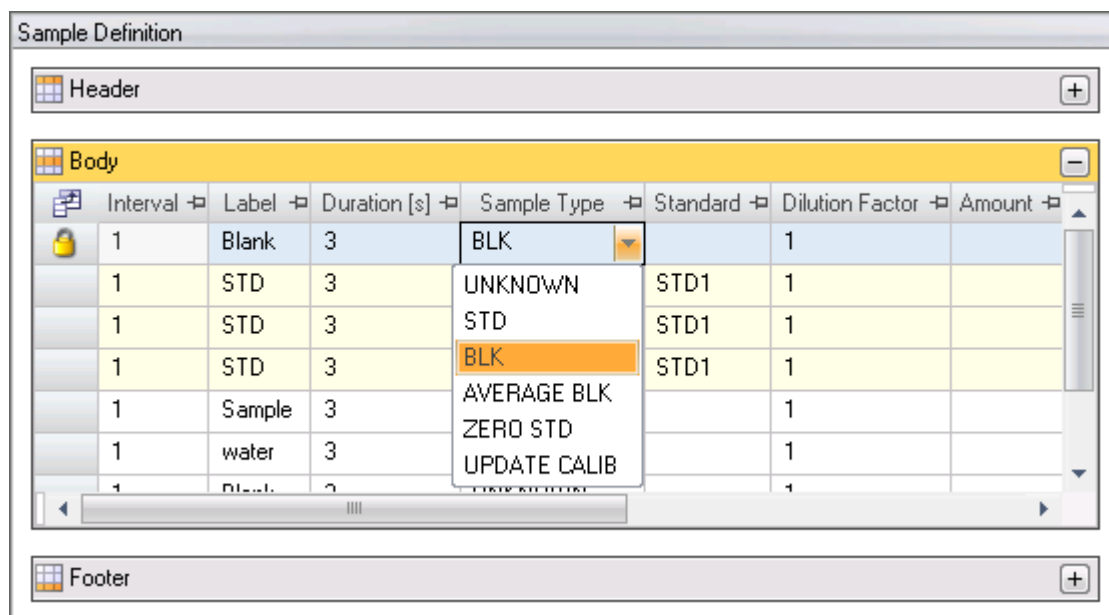

Figure 6-93. Sample Type drop-down in Template Sample Definition
7. Select a **Sample Type** from the drop-down list, see Figure 6-93.